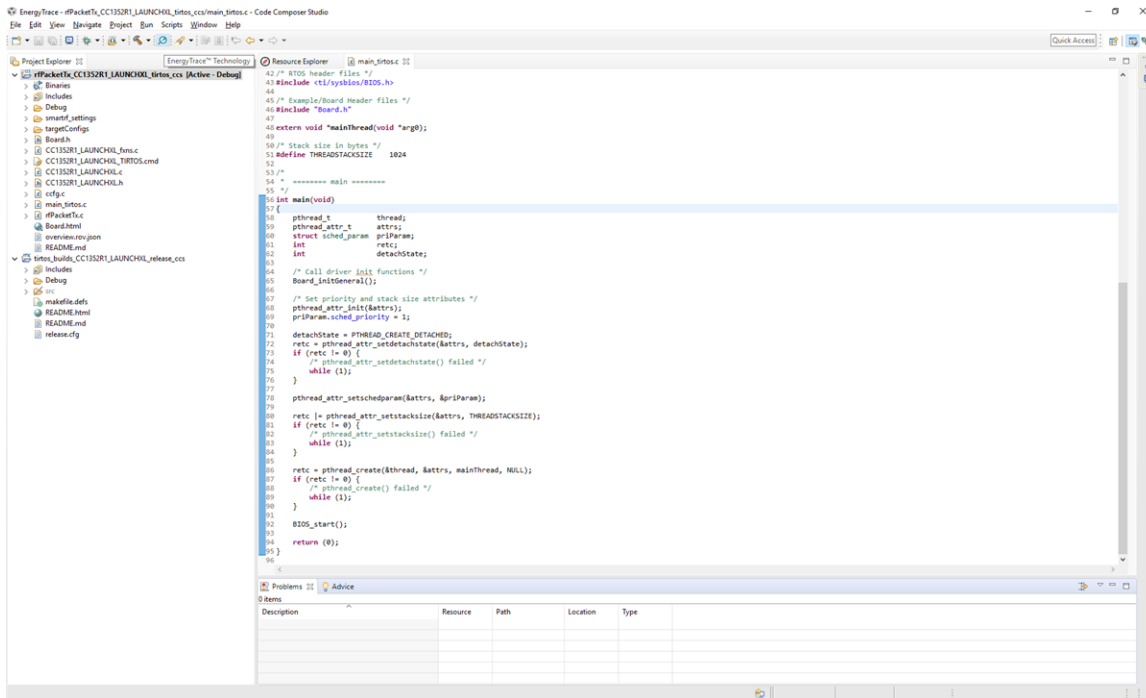

Figure 37. EnergyTrace Button
5. Click the EnergyTrace Button (see Figure 37).